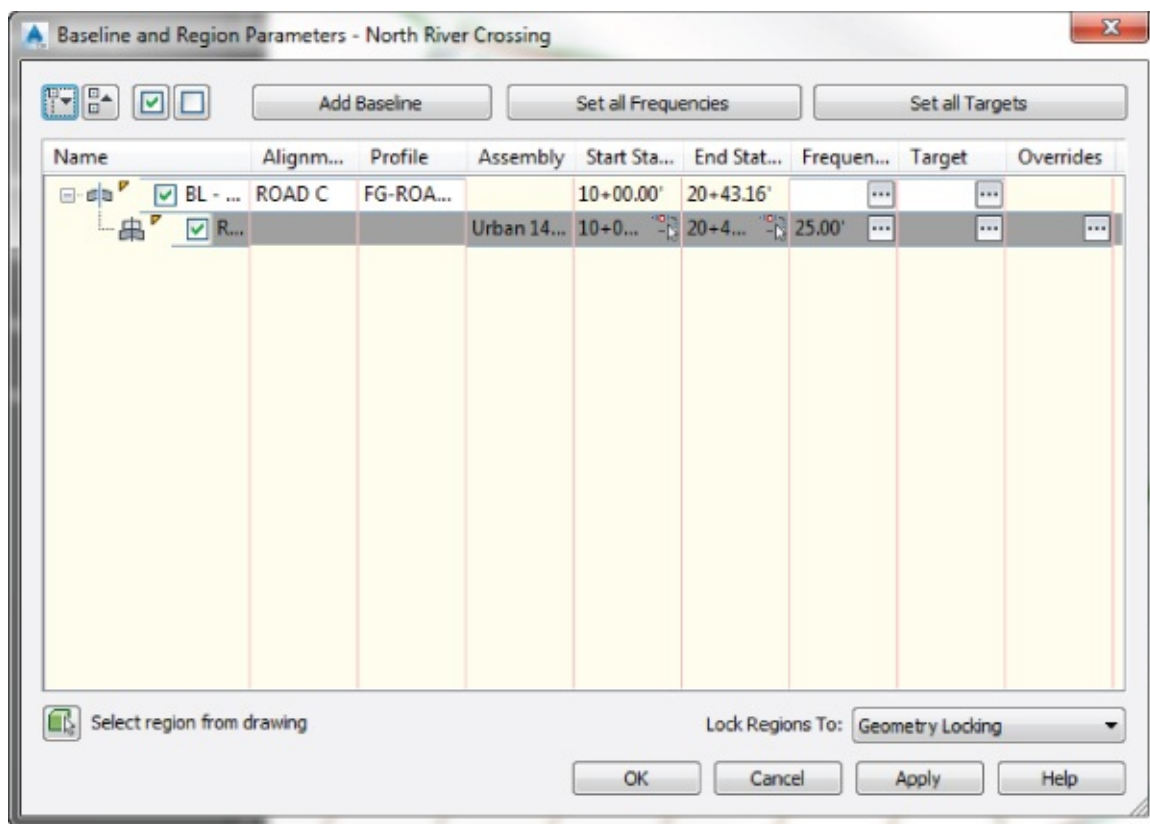

Figure 9.7 The Baseline And Region Parameters dialog
8. Click OK to accept the settings and to display the Baseline And Region Parameters dialog, as shown in Figure 9.7.